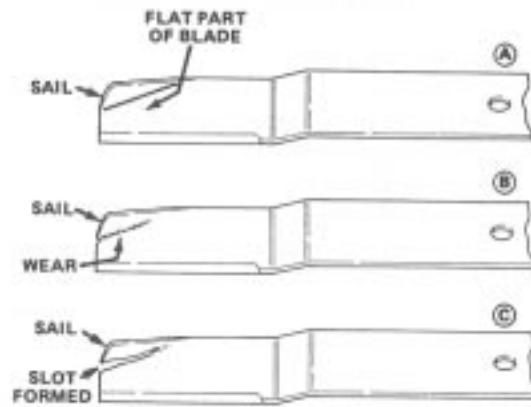

Figure 61
2. Carefully examine cutting ends of the blade, especially where the flat and sail (curved part) meet (Fig. 61-A). Since sand and abrasive material can wear the metal connecting the flat and sail portions, check the blade before using the machine. If any wear is noticed (Fig. 61-B), replace the blade; refer to Removing the Cutting Unit Blade, page 47.